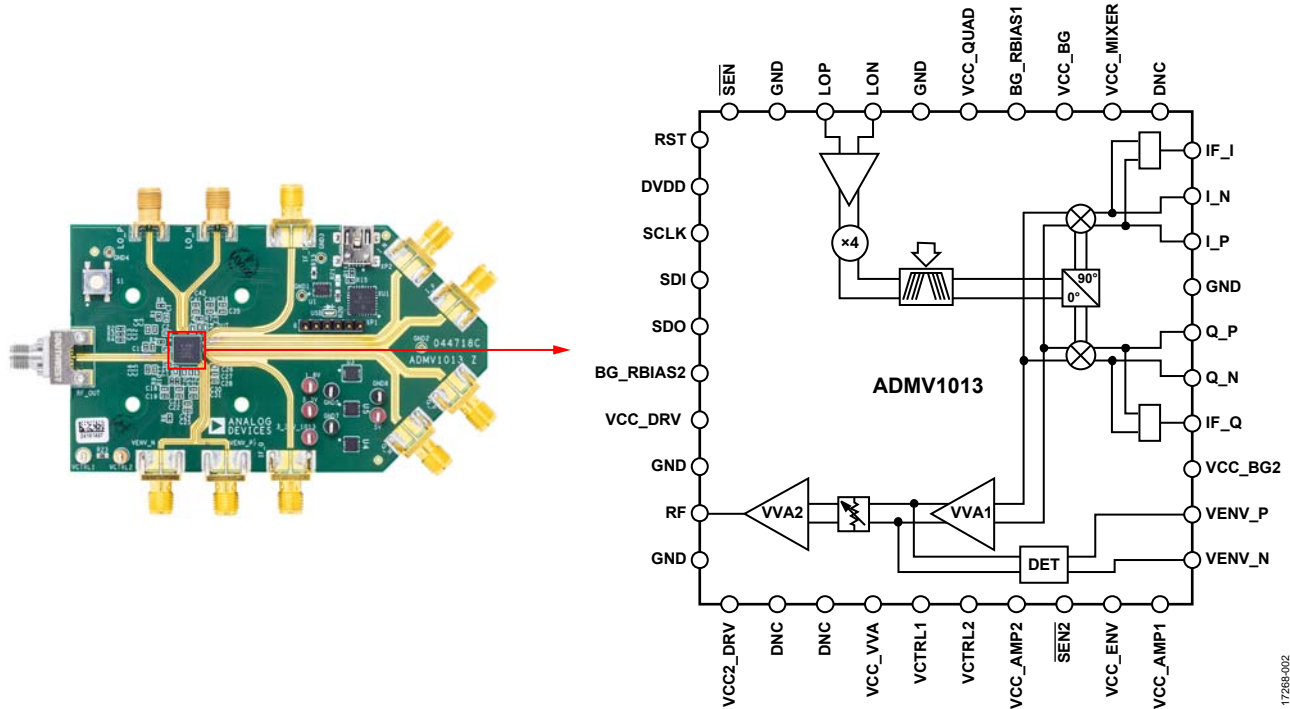
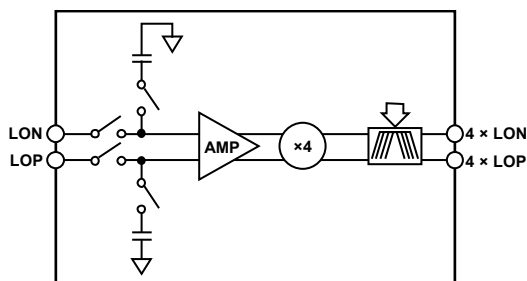

Figure 2. Evaluation Board Configuration
Figure 3. LO Input Path Block Diagram
Changes to Figure 2 and Evaluation Board
The ADMV1013-EVALZ evaluation board contains a built in ADMV1013 chip. Figure 2 shows the location of this chip on the ADMV1013-EVALZ evaluation board and the block diagram of the ADMV1013. The local oscillator (LO) input path shown in Figure 3 operates from 5.4 GHz to 10.25 GHz with an LO amplitude range of -6 dBm to +6 dBm. The LO input path also has an internal quadrupler and a programmable band-pass filter. Program the LO band-pass filter from QUAD_FILTERS (Register 0x09, Bits[3:0]).